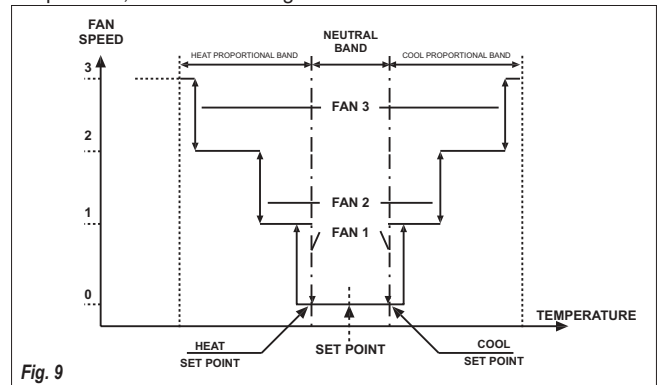

Fig. 9
• Automatic: the selector switch D is put to position A. In this case the speed changes automatically in relation to the room temperature, as indicated in fig. 9.